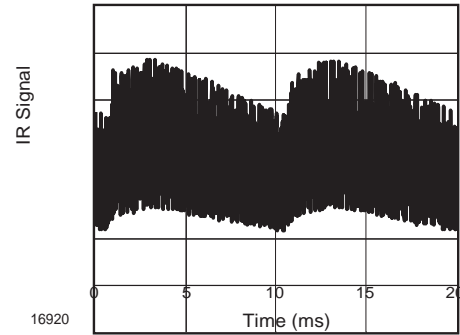
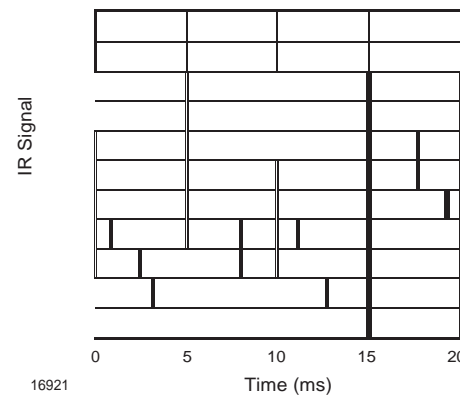

Fig. 13 - IR Disturbance from Fluorescent Lamp with Low Modulation
Fig. 14 - IR Disturbance from Fluorescent Lamp with High Modulation
- Strongly or weakly modulated noise from fluorescent lamps with electronic ballasts (see Fig. 13 or Fig. 14)